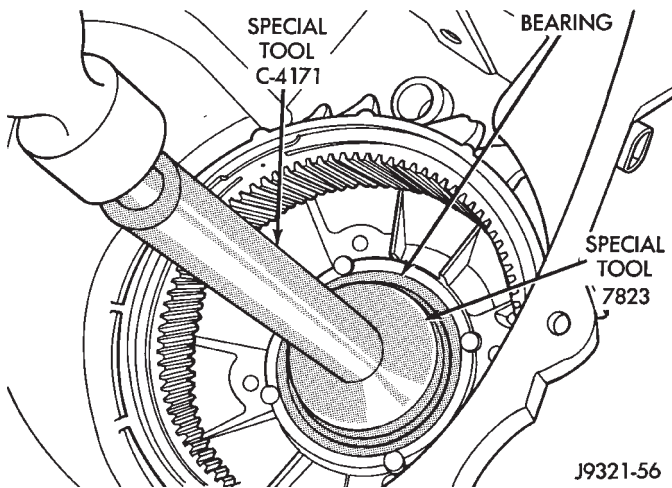

Fig. 56 Removing Front Bearing
- (1) Remove old bearing with Tool Handle C-4171 and Bearing Driver 7823 (Fig. 56). Drive bearing out from case interior as shown.